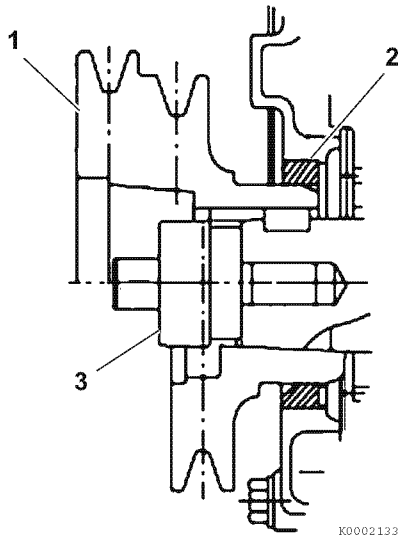

Figure 6-102
Use the crankshaft pulley installation tool (Figure 6-102, (3)) when reinstalling the pulley (Figure 6-102, (1)). The tool will guide the pulley hub and protect the front seal (Figure 6-102, (2)) from damage.